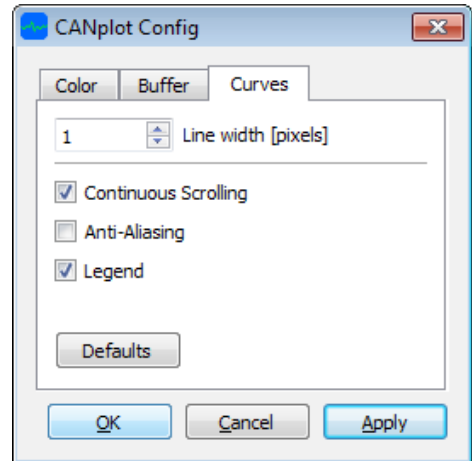

Figure 20: Curves
- Defaults* Click the *Defaults* button to reset all settings of the tab *Curves* to default values (see Figure: 20).